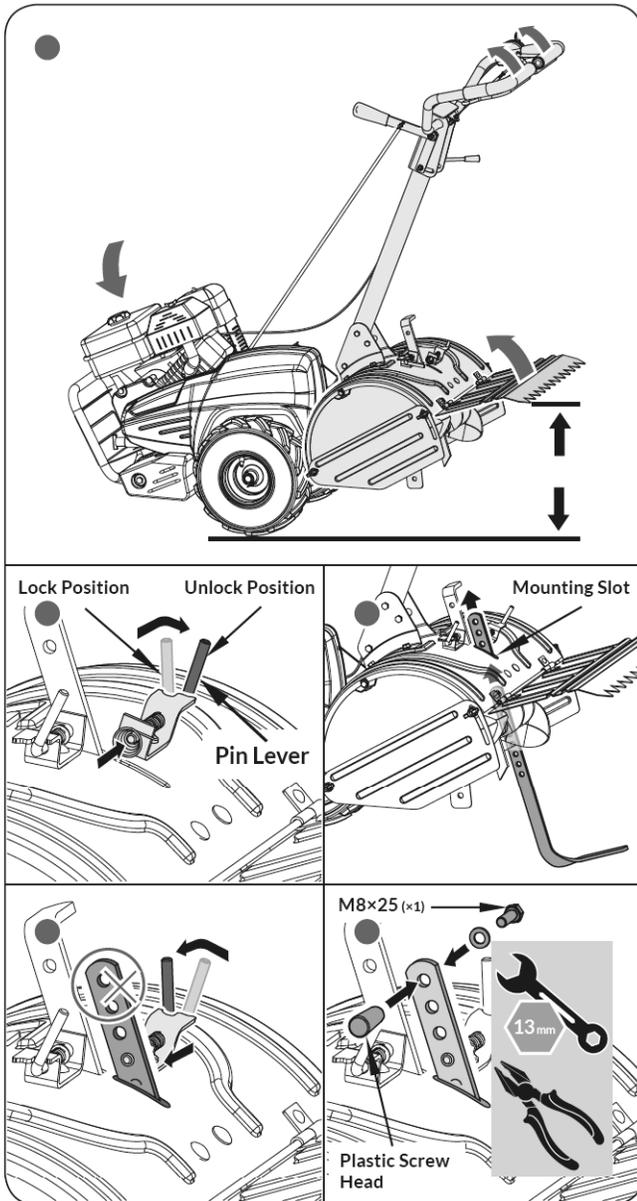

Figure 4a
1. Hold the machine leaning forward. (see **Figure 4a, Illustration 1**)
2. Pull the pin lever to unlock position. (see **Figure 4a, Illustration 2**)
3. Insert the depth stake into the slot in the blade cover. (see **Figure 4a, Illustration 3**)
4. Release the pin into the fourth hole of depth stake. At the same time, switch the pin lever to the lock position. (see **Figure 4a, Illustration 4**)
5. Fasten the M8×25 bolt, washer and plastic screw head into the first hole of depth stake. Hold the plastic screw head in place with pliers while screwing the bolt in. (see **Figure 4a, Illustration 5**)